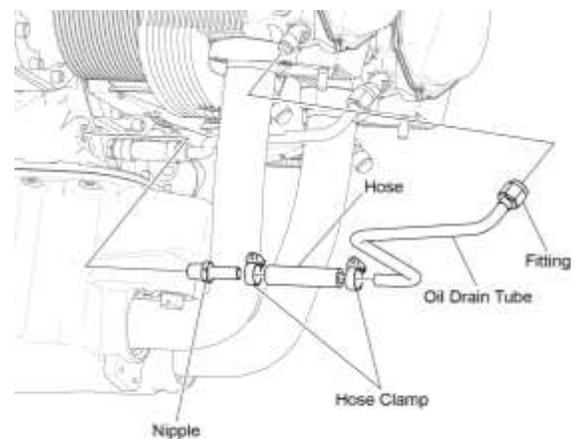

Figure 37
- (1) Connect a new hose to the nipple (Figure 37) in the crankcase.
- (2) Install and tighten a hose clamp on the hose end closest to the crankcase.
- (3) Connect the oil drain tube to the elbow fitting at the cylinder with a flange nut. Torque the nut per the latest revision of the *Service Table of Limits - SSP-1776*.
- (4) Connect the oil drain tube to the installed new hose.
- (5) Install and tighten the hose clamp on the hose and oil drain tube connection.
- (6) Torque both hose clamps per instructions in the latest revision of the *Service Table of Limits - SSP-1776*.